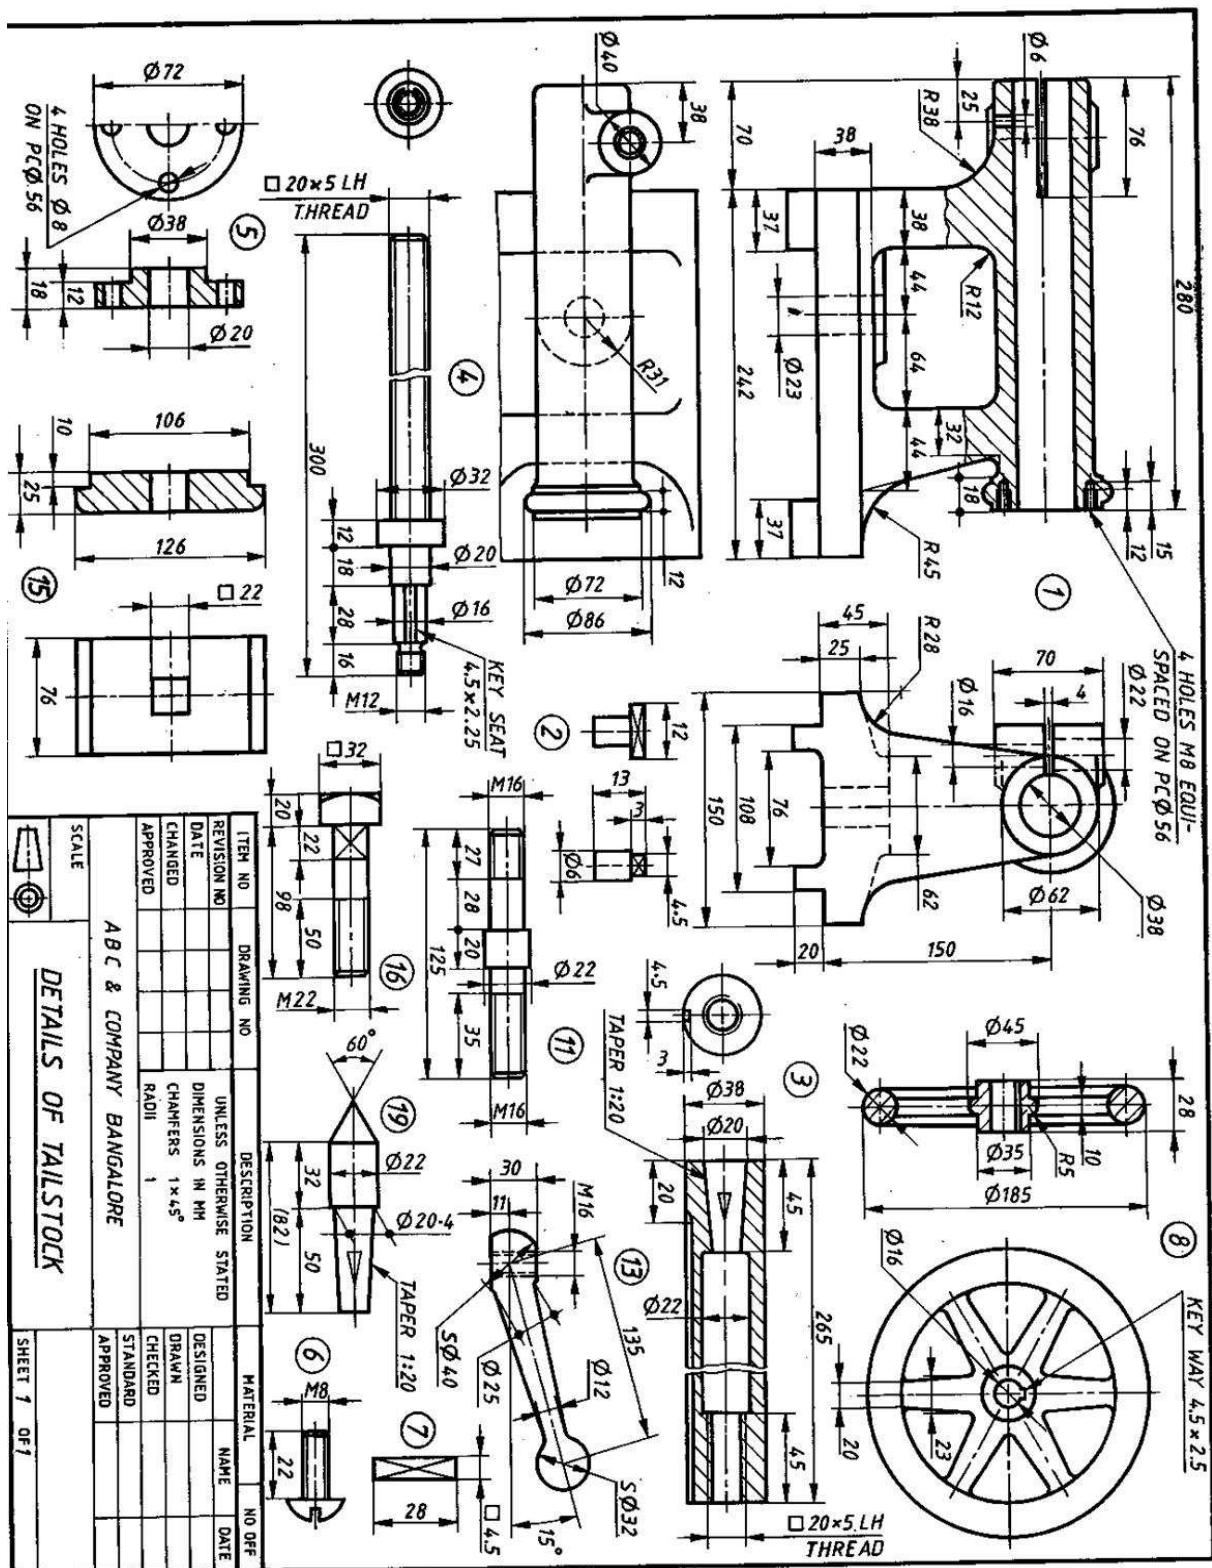

Figure 1 'TAIL STOCK'
- 5.** Figure 1 shows the details of 'TAIL STOCK'. Assemble the parts and draw the following views of the assembly.